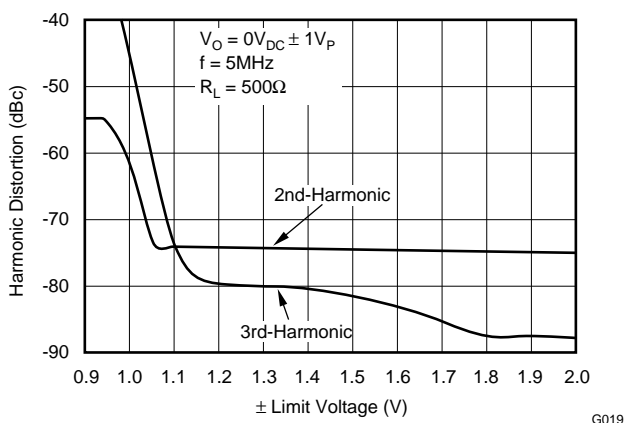

Figure 67. Harmonic Distortion Near Limit Voltages
- The limiter offset voltage only slightly degrades limiter accuracy. Figure 67 shows how the limiters affect distortion performance. Virtually no degradation in linearity is observed for output voltage swinging right up to the limiter voltages.